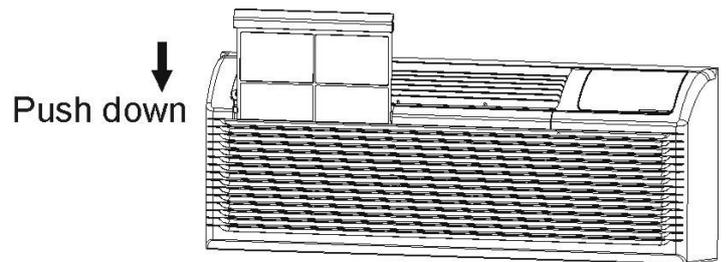

Fig.11
- **Replacing Air Filter (See.Fig.11)**